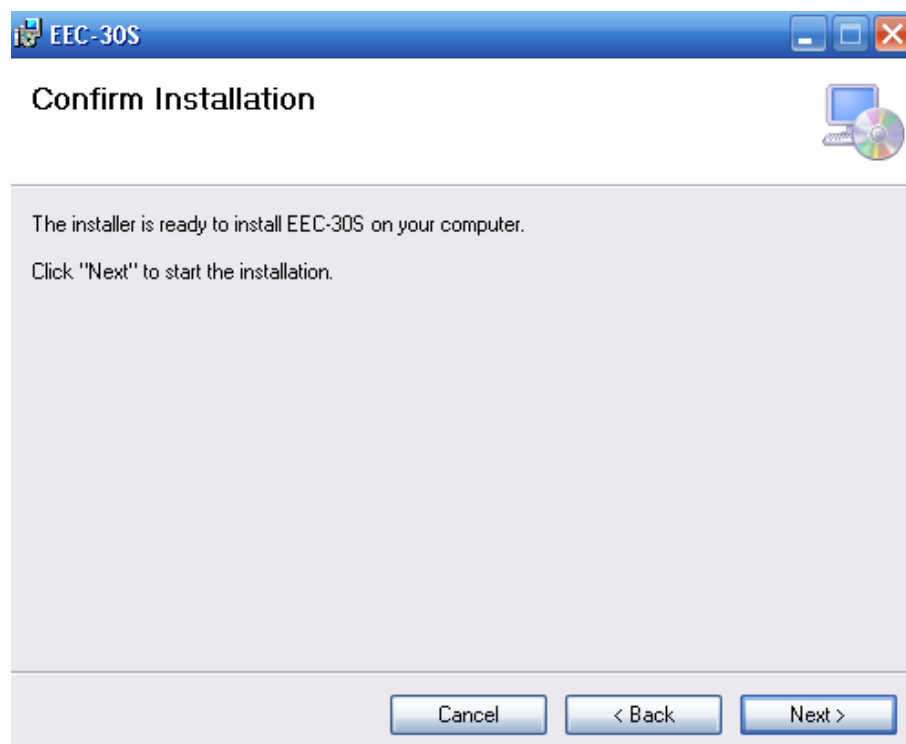

Figure 2-6 Ready to install the program
5. Press [NEXT], the wizard is ready to begin installation, see figure 2-6: